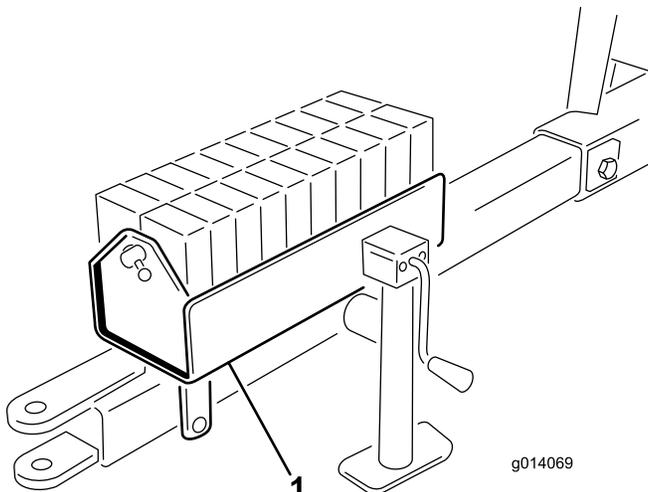

Figure 6
4. Mount the weight case to the hitch with (2) 1/2 x 5-1/2 inch bolts and lock nuts and tighten.
5. Fill the weight case with the weights and install the bar and pin (Figure 6).